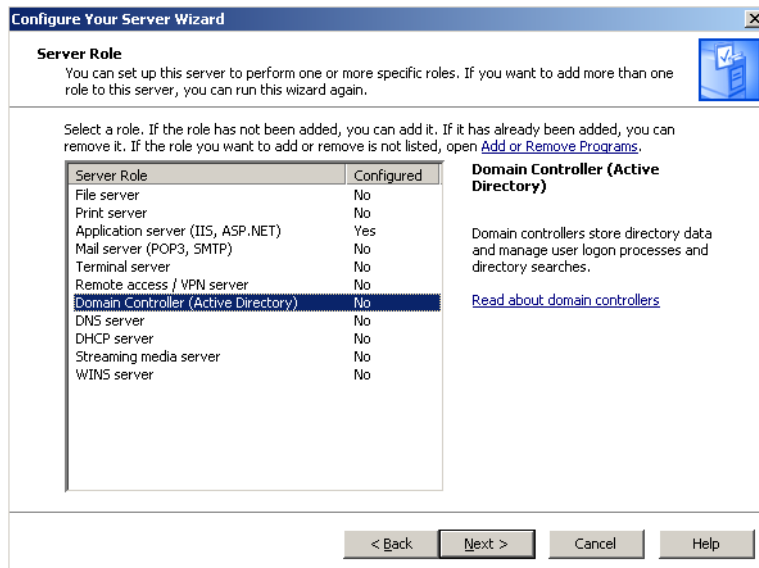

Figure D-25 Server role dialog
6. From the **Server Role** dialog shown in figure D-25, select the **Domain Controller (Active Directory)** item, then click the **Next** button.